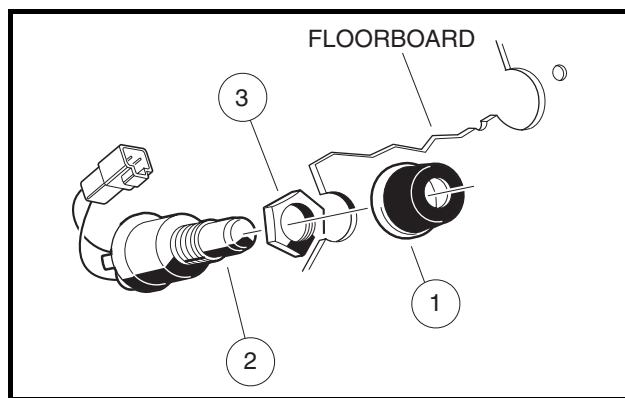

Figure 12-23 Horn Switch
2. Unscrew the rubber cap (1) from the horn switch (2) (**Figure 12-23, Page 12-24**).
1. Install the jam nut (3) until it makes contact with the body of the horn switch (**Figure 12-23, Page 12-24**).